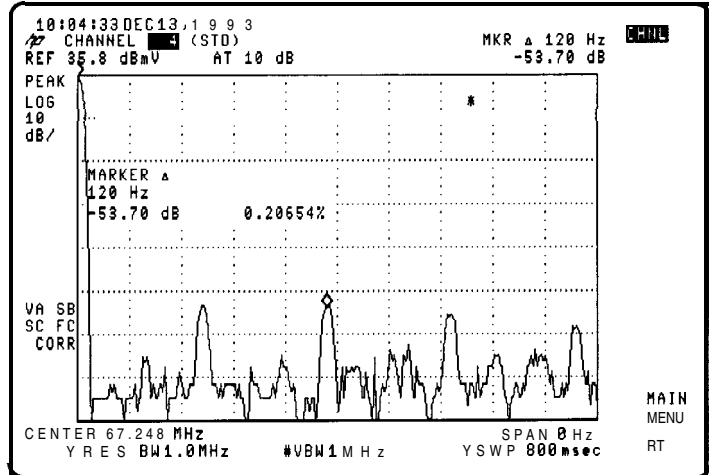

Figure 2-31. Hum, More Information
2. Pressing **MORE INFO** results in the analyzer performing a single sweep of 800 ms and performs a Fast Fourier Transform (FFT) on it to separate power line related components. See Figure 2-31.